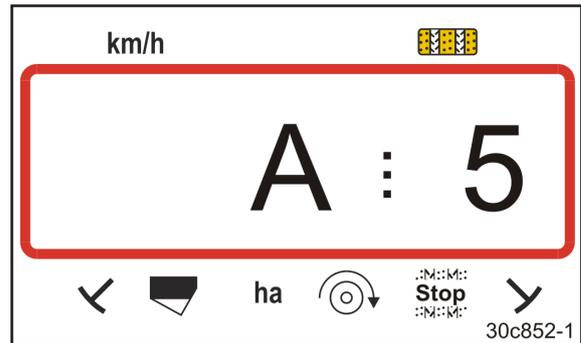

Fig. 45
- the display (Fig. 45) appears